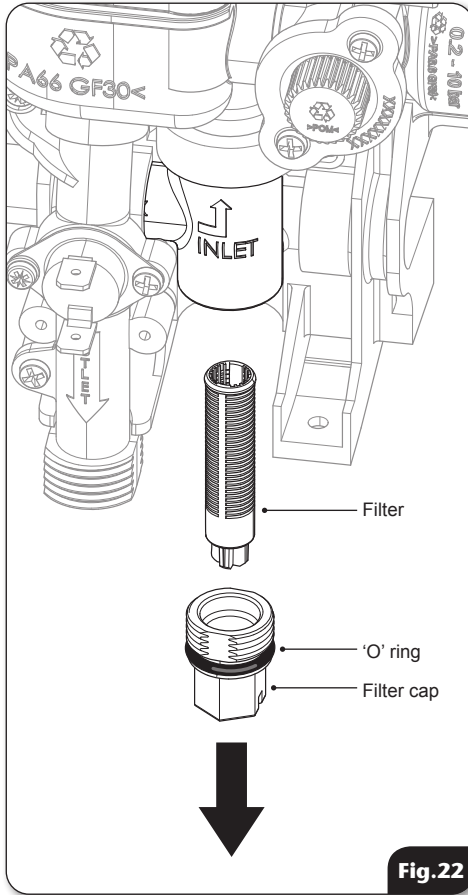

Fig.22
- The inlet filter is situated inside the water inlet fitting (**fig.22**).